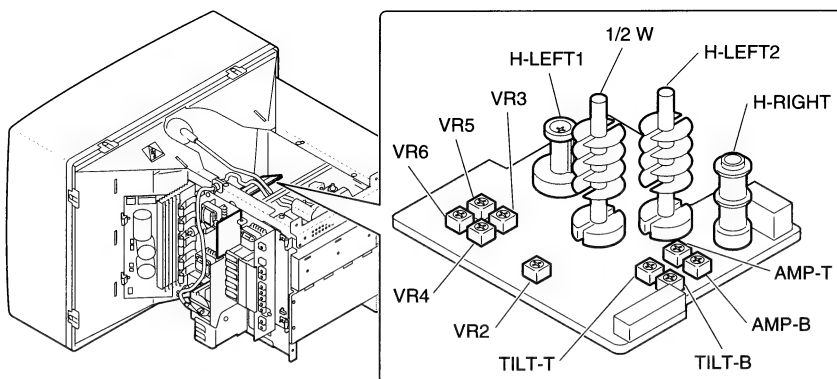

Figure 15 Convergence Adjustment Controls
2. FIGURE 15. Adjust the VR3 control until the red and blue vertical lines are not visible in the top 2 inches (50 mm).
- FIGURE 15. Adjust the VR2 control until the red and blue vertical lines are not visible in the top 1/4 inch (5 mm).
- FIGURE 15. Adjust the VR5 control until the red and blue vertical lines are not visible in the upper four inches (100 mm).
- FIGURE 15. Use the AMP-T control to adjust the top two inches (50 mm) of the leftmost and rightmost red and blue vertical lines.
- FIGURE 15. Use the TILT-T control to adjust the red and blue vertical lines at the top-left and top-right sides of the screen. The TILT-T control affects lines at the top-left side of the screen more than it affects lines at the top-right. You may need to return to the AMP-T control to complete this adjustment.
2. FIGURE 15. Adjust the VR4 control until red and blue vertical lines are not visible in the bottom two inches (50 mm).
- FIGURE 15. Adjust the VR6 control until red and blue vertical lines are not visible in the bottom four inches (100 mm).
- FIGURE 15. Use the AMP-B control to adjust the bottom two inches (50 mm) of the leftmost and rightmost red and blue vertical lines.
- FIGURE 15. Use the TILT-B control to adjust the red and blue vertical lines at the bottom-left and bottom-right sides of the screen. The TILT-B control affects lines at the bottom-left side of the screen more than it affects lines at the bottom-right. You may need to return to the AMP-B control to complete this adjustment.
2. FIGURE 15. Using the hex-head adjustment tool, adjust the H-RIGHT control until the red and blue vertical lines at the left and right edges are not visible. If the blue and red vertical lines at either side remain visible, perform the H-LEFT1 adjustment.
- FIGURE 15. Adjust the H-LEFT1 control until the blue vertical lines at the left and right edges are equally distance from the green/white lines. Now repeat the H-RIGHT adjustment.
- FIGURE 15. Using the hex-head adjustment tool, adjust the H-LEFT2 control until the red and blue vertical lines are not visible in an area approximately 3–5 inches (75–125 mm) from the left and right edges of the screen. This adjustment finetunes the H-RIGHT and H-LEFT1 adjustments.
- FIGURE 15. Adjust the 1/2W control until the red and blue vertical lines on the left third of the pattern are not visible.